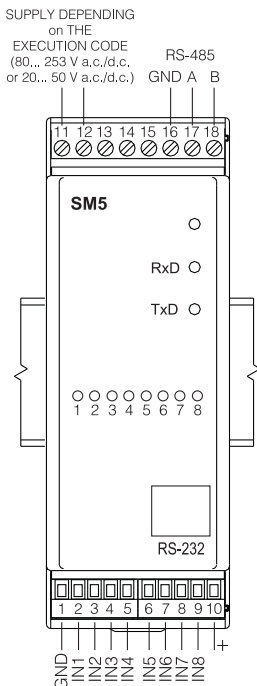

Fig 2. Electrical connections of SM5 logic input module
- The RS-232 socket serves only to connect the device (Fig. 2) working with the MODBUS protocol. When the module is not used, place the hole plug in the RS-232 socket of the module.
One must pay special attention to the correct connection of external signals (see fig. 2)